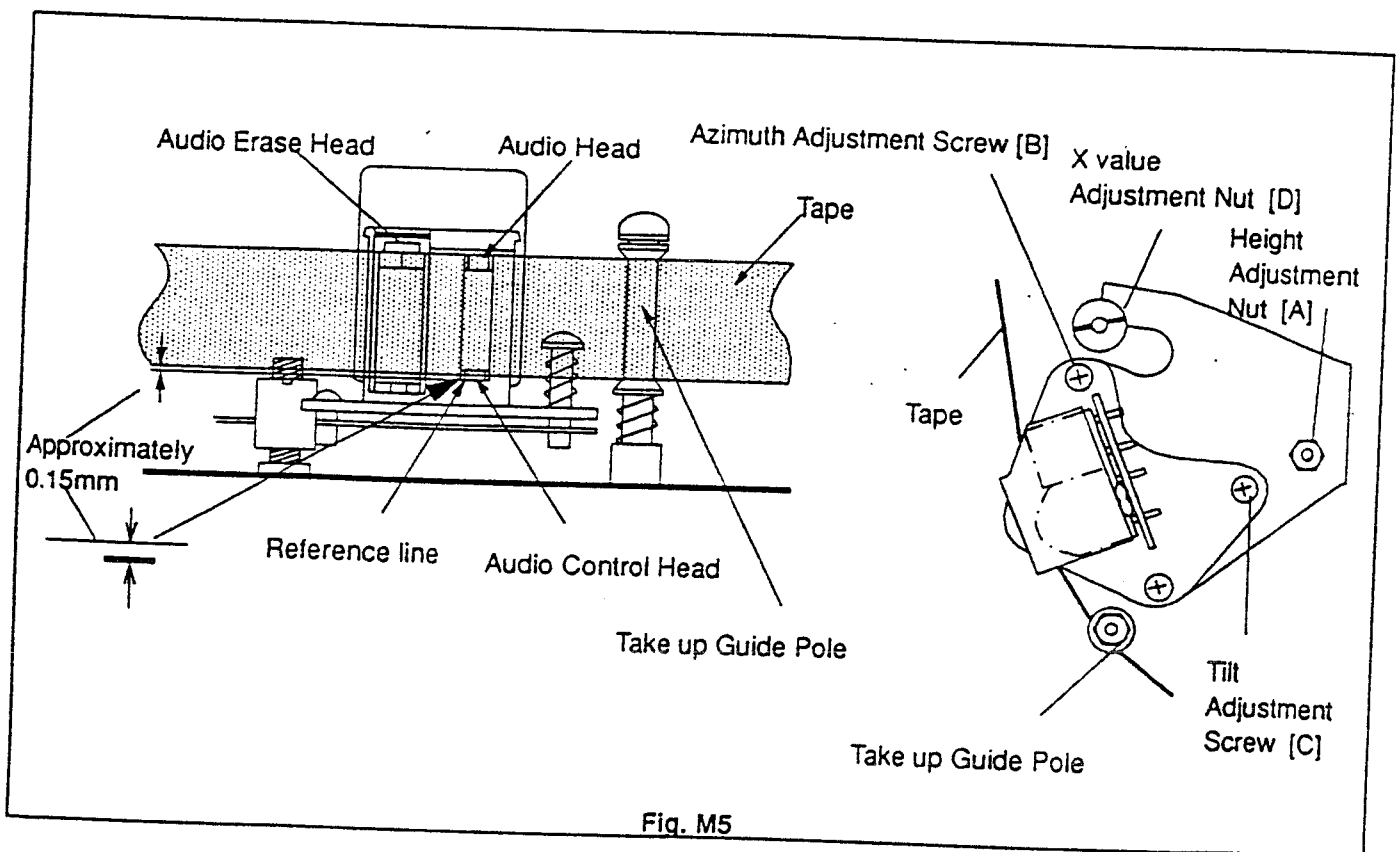

Fig. M5
1. Play back a cassette tape. Looking at the lower edge of the Control Head with the tape in motion, ensure that the lower edge of the tape runs 0.15mm above the lower edge of the Control Head. If it doesn't, turn Height Adjustment Nut [A] slightly in either direction as necessary to correct it. Turn clockwise to lower the head and counter clockwise to raise it. (Refer to Fig. M5)
Play back a cassette tape and confirm that the tape running between Take-up Guide Pole [4] in Fig.M1 and Audio Control Head has no slack. If the tape has slack, adjust the Control Head by turning tilt adjustment screw [C] in Fig. M5 so that the tape has no slack.